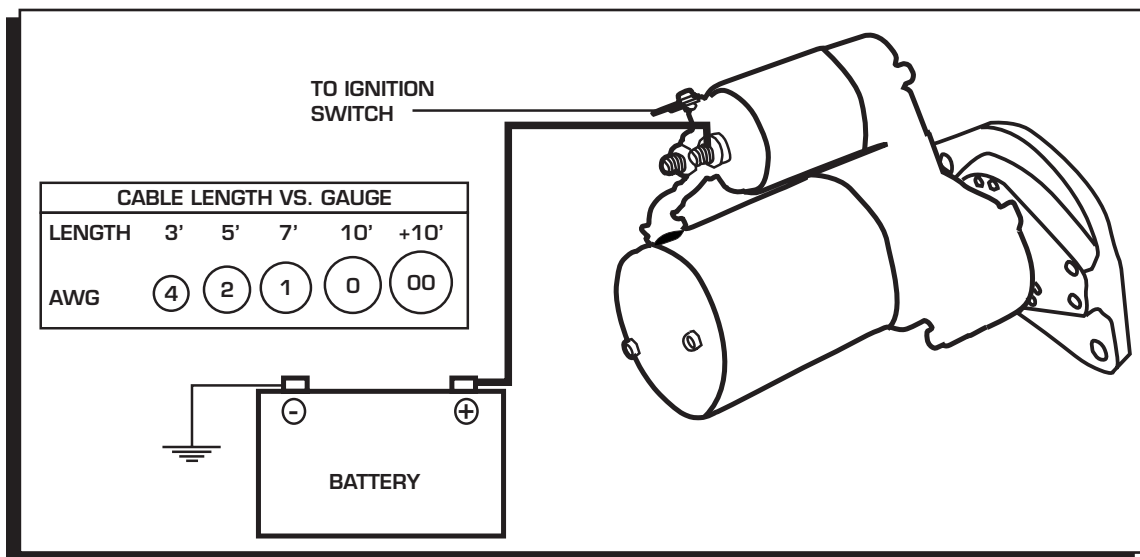

Figure 5 Wiring the Starter.
6. The switch wire that connects to the solenoid should be at least 14-gauge (Figure 5).
7. Attach the battery cable. The gauge of the battery cable depends on its length. Using the proper gauge wire is important to the operation of the starter. Both the positive and ground wires must be able to meet the demands of the starter. The chart in Figure 5 shows the recommended sizes. Be sure to route the wire away from the exhaust and moving parts of the engine.